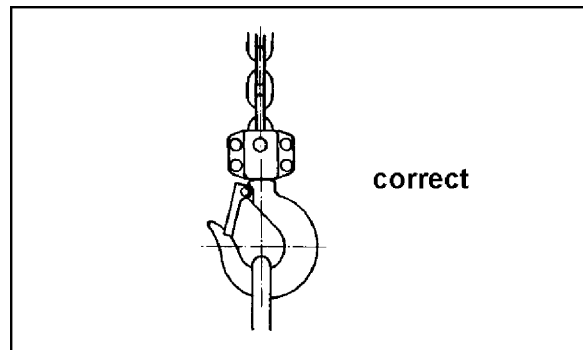

Figure 5
3. Correctly center the load on the bottom hook (Figure 5). Incorrect loading is dangerous to the operator, the lever hoist, and the load.